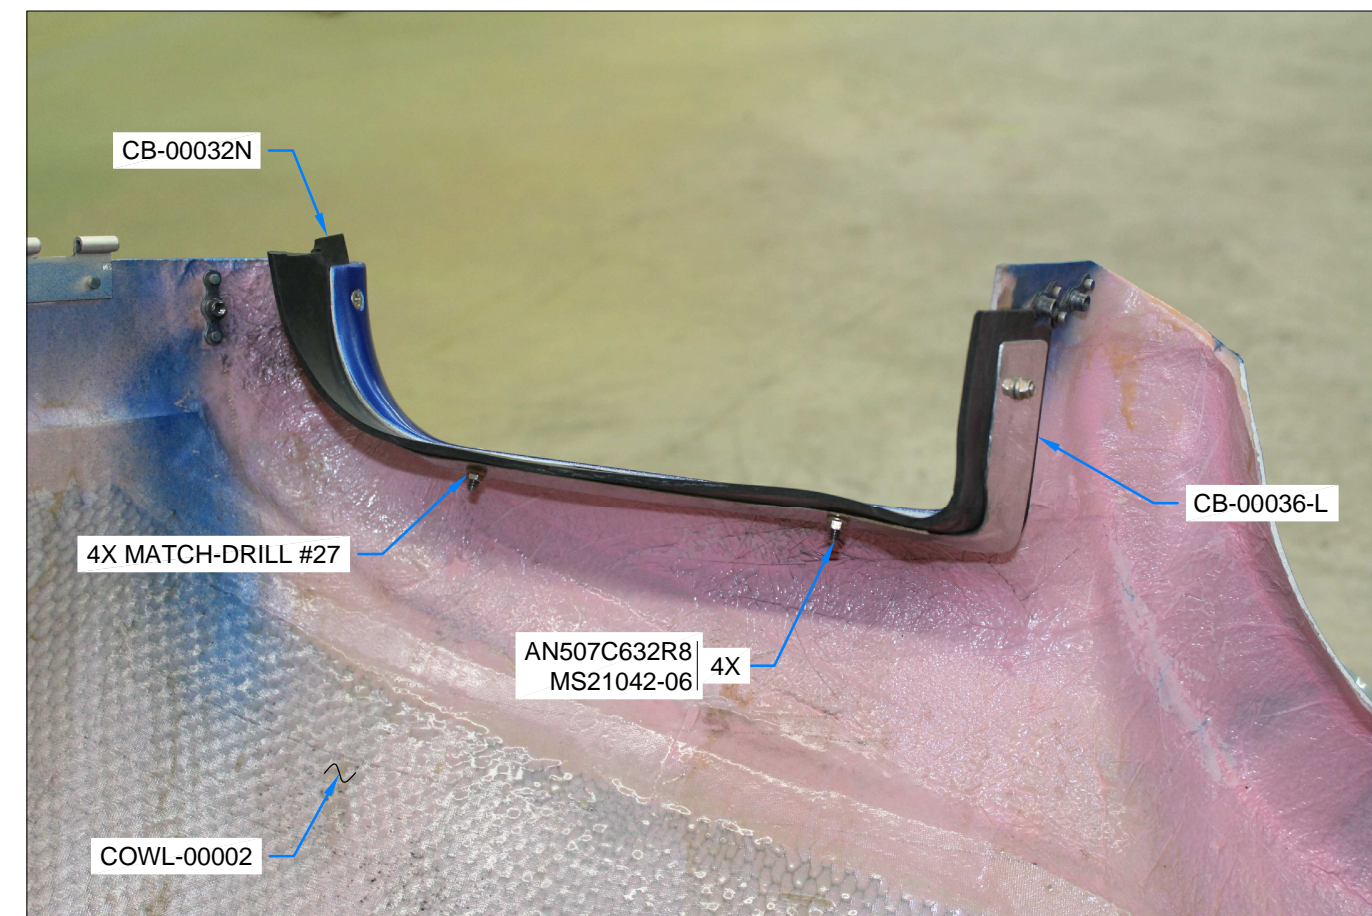

FIGURE 3: ATTACH INLET SEALS TO BOTTOM COWL
Step 4: Attach the cowl baffle seals to the bottom cowl using the clamping strips as shown in Figure 3. Tighten the screws to lightly compress the seals. **DO NOT** over-tighten the screws.